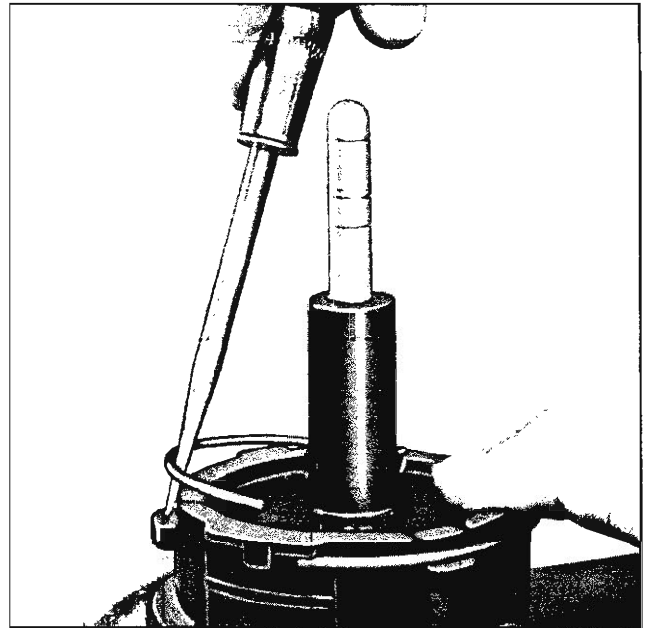

Fig. 34—Installing Retainer Ring
26. Secure with lock ring making sure ends of lock ring are set in place on the large divided lug of the power piston, (one end on each side of lug). (Fig. 34)